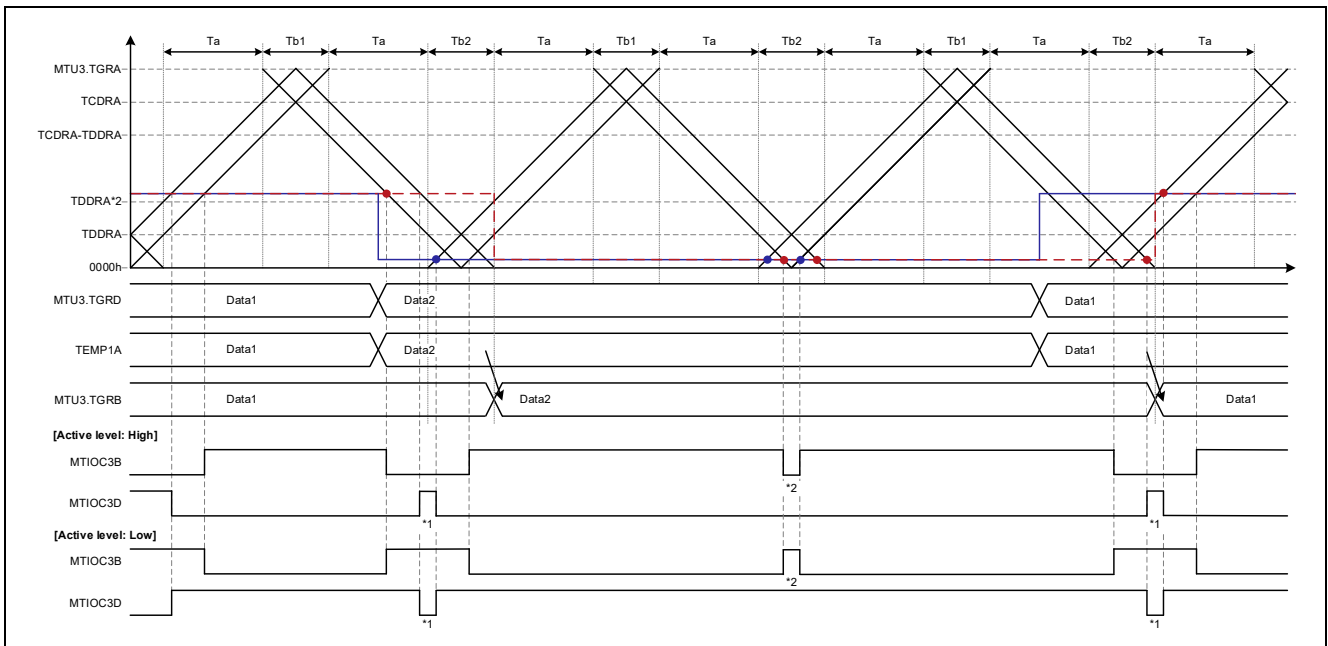

Figure 1.23 Complementary PWM Mode 2 Operation Example (Output Start: Trough, Overwrite in Ta Interval, Duty: D → A → D)
- [Operation example 2] Figure 1.23, Complementary PWM Mode 2, Output Start: Trough, Ta Interval Overwrite, cautions 1 and 2
Figure 1.23 shows an operation example of buffer overwrite in the Ta interval in complementary PWM mode 2. Except for the difference in the buffer overwrite timing, the operation is the same as that shown in Figure 1.22.